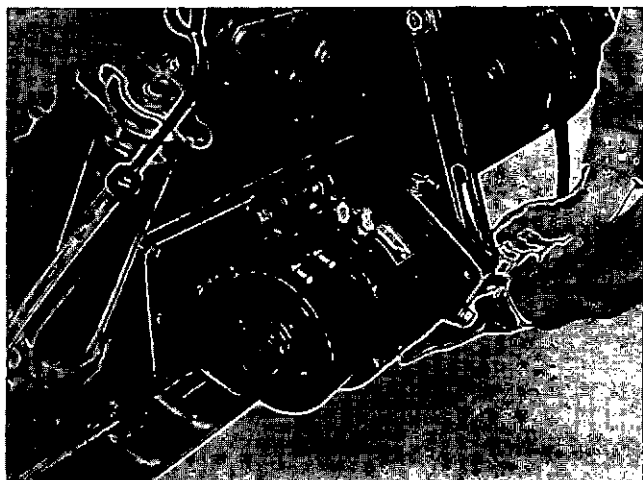

Fig. 14-1-99, V41475. Installing low-mount generator
5. Adjust belt tension and lock the adjustment bar to the generator. Fig. 14-1-99. See "Belt Adjustment" later in this group.